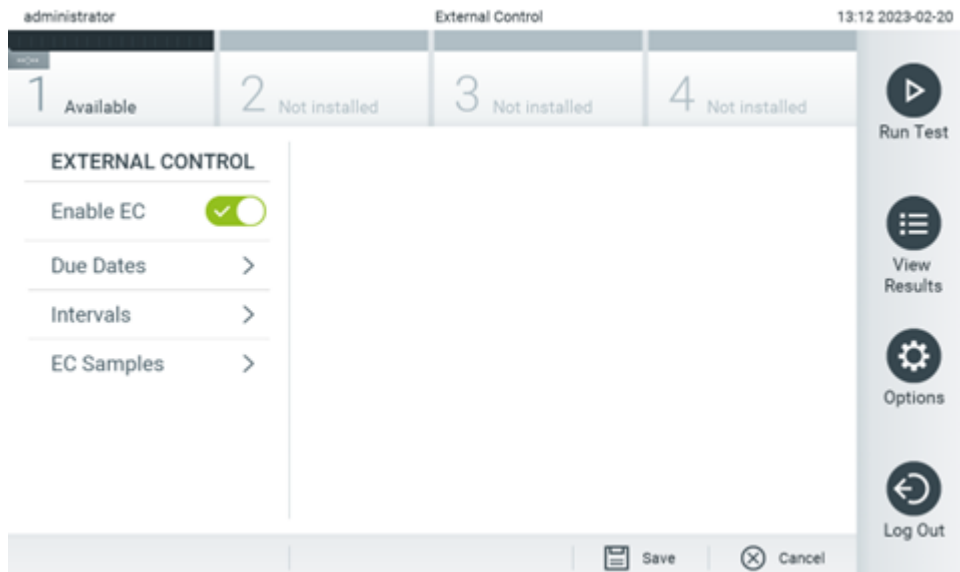

Figure 76. EC screen.
2. Press the **Enable EC** toggle button to activate the feature (Figure 76).